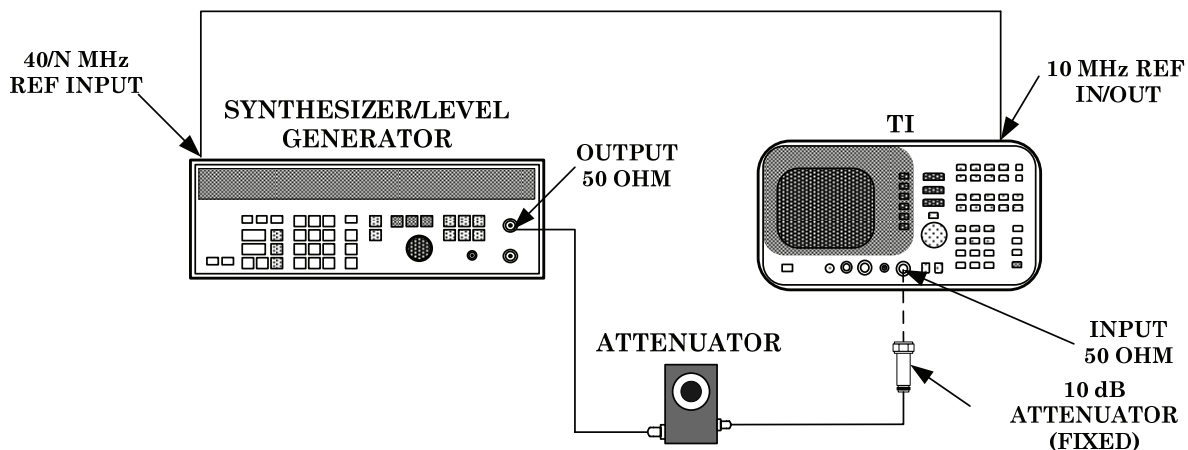

Figure 3. IF gain uncertainty - equipment setup.
(1) Connect equipment as shown in figure 3.